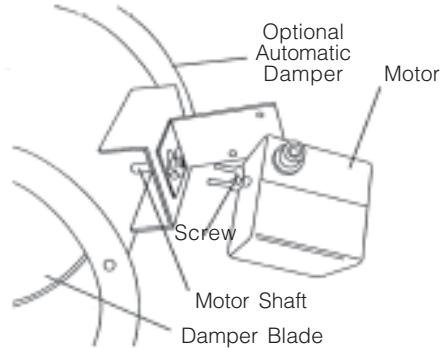

Figure 3-39. Tighten Motor Linkage on Optional Automatic Damper
- a. Verify motor linkage on damper is tight by manually moving the damper blade before installation. Motor shaft should rotate when damper blade is moved. If shaft does not rotate, remove motor and tighten screw on motor linkage (see Figure 3-39).